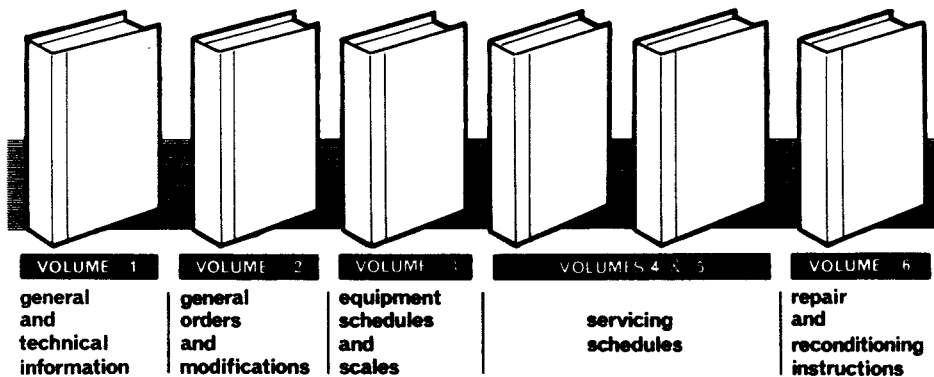

Fig 24.1 The six-volume scheme
7. This is a system that was introduced some years ago with the aim of standardizing the layout adopted for technical (equipment) air publications (Fig 24.1). The basic titles and contents of the six volumes are as follows: